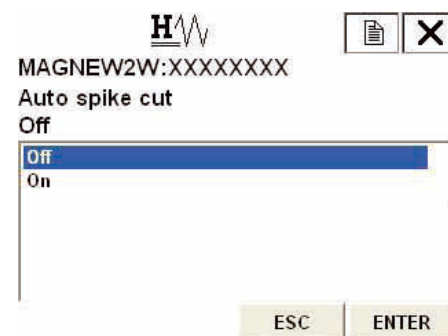

Figure 7-23
Figure 7-23 will then be displayed.
2. Once the display as shown in Figure 7-23 appears, move the arrow key up or down to select On or OFF. After making a selection, press F4 (ENTER). If F3 (ESC) is pressed here, the selection will be canceled and the display will return to the Noise immunity menu.